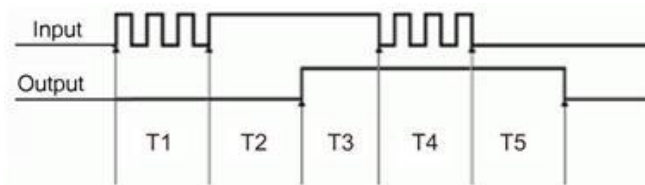

Figure 18. Trigger after stable mode
In the *trigger after stable* mode, the output of the debounce module does not change state until a period of stability has been achieved. This means that the input has an edge, and then must be stable for a period of time equal to the debounce time. Refer to Figure 18.
- T1 – In Figure 18, the input signal goes high at the beginning of time period T1, but never stays high for a period of time equal to the debounce setting (equal to T2 for this example.)